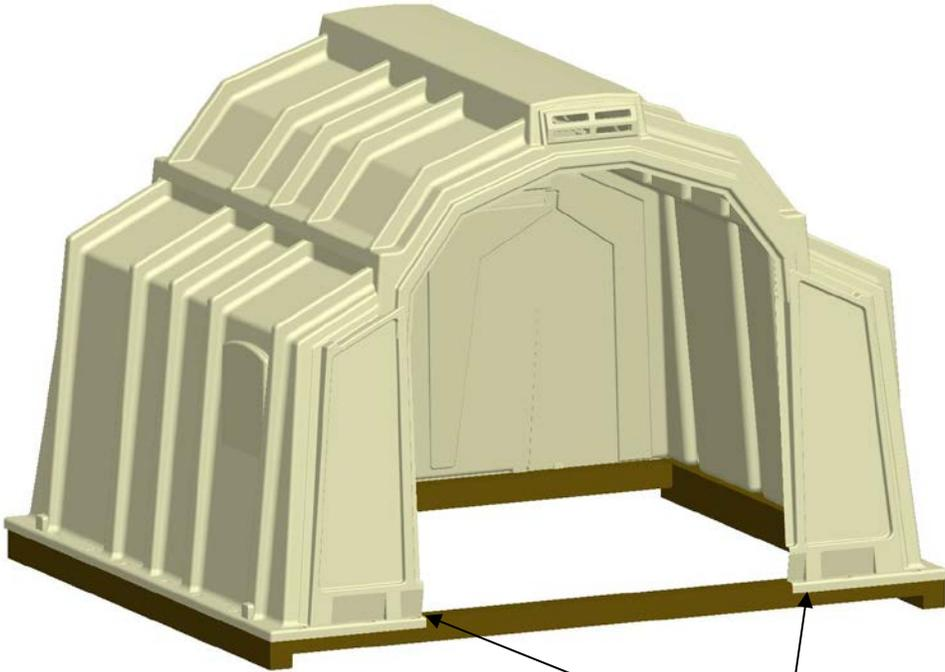

Figure 2
A. Using 5/16" (8mm) Deep Well Socket, washers and screws, fasten (2) brackets (included in hardware kit) near entrance securing Hutch to Base (see figure 2)